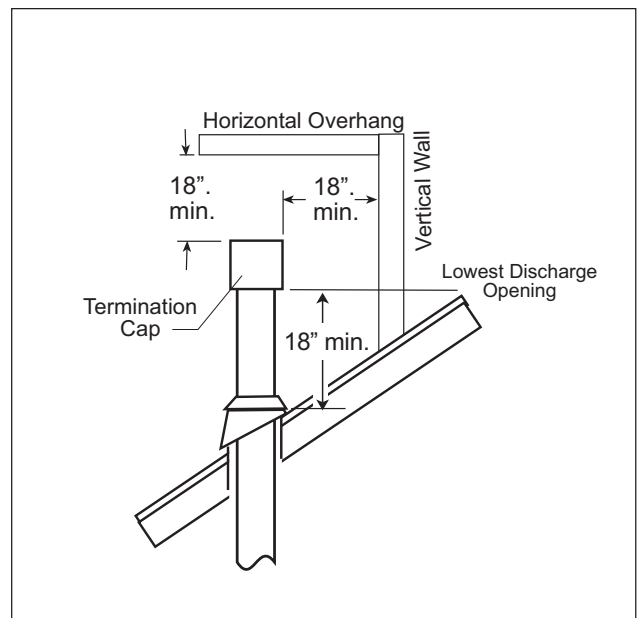

Figure 10. Gas Vent Height Rule: Vertical vent termination height above roof.
- The minimum vent height above the roof or adjacent walls is specified by major building codes. Use the Gas Vent Rule as a general guide. See fig.10. requirements of the approval listing and the manufacturer's instructions.